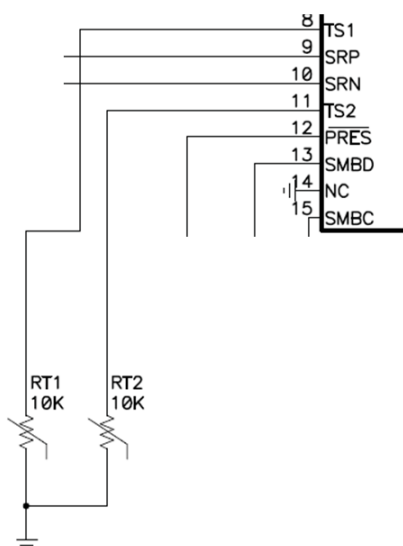

Figure 18. Thermistor Drive
For the bq3055 device, TS1 and TS2 provide thermistor drive-under program control (Figure 18). Each pin can be enabled with an integrated 18-k Ω (typical) linearization pullup resistor to support the use of a 10-k Ω at 25°C (103) NTC external thermistor, such as a Mitsubishi BN35-3H103. The reference design includes two 10-k Ω thermistors: RT1 and RT2.